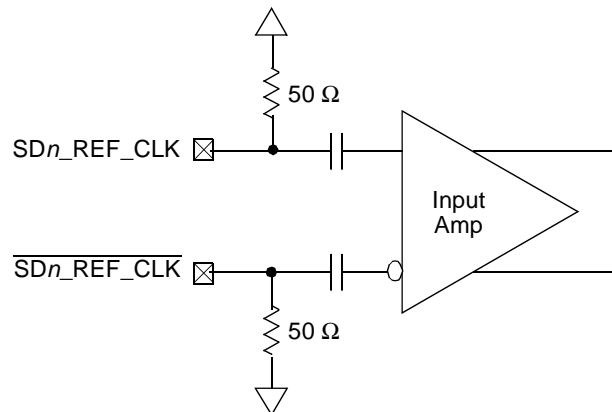

Figure 49. Receiver of SerDes Reference Clocks
Figure 49 shows a receiver reference diagram of the SerDes reference clocks.
- The $\overline{SDn_REF_CLK}$ and SDn_REF_CLK are internally AC-coupled differential inputs as shown in Figure 49. Each differential clock input ($\overline{SDn_REF_CLK}$ or SDn_REF_CLK) has a 50 Ω termination to SGND_SRDS_n (xcovss) followed by on-chip AC-coupling.